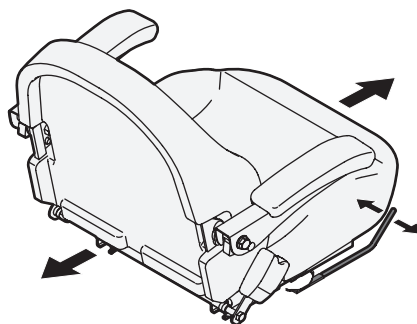

Figure 21
3. Release the adjustment lever. Ensure seat is locked into position before operation. See Figure 21.